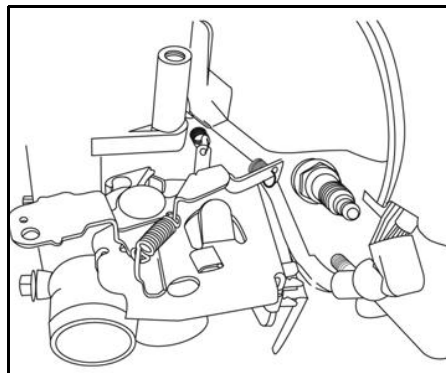

Figure 5
- Figure 5 - Vertical Shaft Models 110000, 120000, 210000 (Choke-A-Matic® Carburetors).